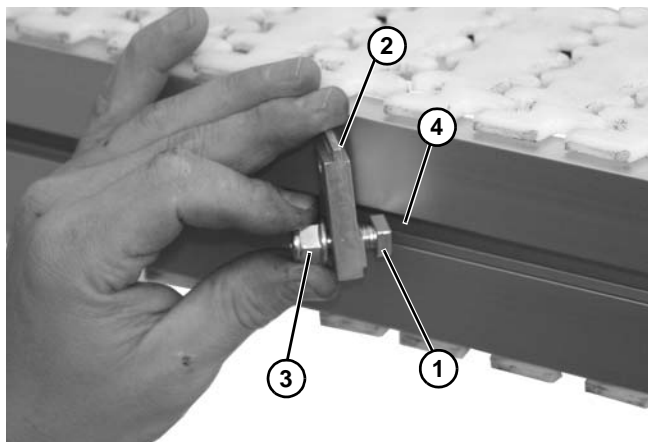

Figure 64
1. Install stud (Figure 64, item 1) onto retaining clip (Figure 64, item 2) with nut (Figure 64, item 3).
2. Install stud (Figure 64, item 1) into side rail channel (Figure 64, item 4). The end clips should be no greater than 12" from end of the conveyor.